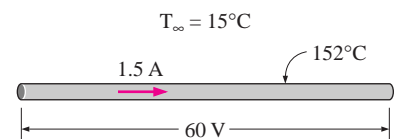

FIGURE 16–13
**Discussion** Note that the thermal conductivity value of a material in English units is about half that in SI units (Fig. 16–10). Also note that we rounded the result to two significant digits (the same number in the original value) since expressing the result in more significant digits (such as 0.4160 instead of 0.42) would falsely imply a more accurate value than the original one.
Consider the cooling of a hot block by blowing cool air over its top surface (Fig. 16–11). Energy is first transferred to the air layer adjacent to the block by conduction. This energy is then carried away from the surface by convection, that is, by the combined effects of conduction within the air that is due to random motion of air molecules and the bulk or macroscopic motion of the air that removes the heated air near the surface and replaces it by the cooler air.
Convection is called **forced convection** if the fluid is forced to flow over the surface by external means such as a fan, pump, or the wind. In contrast, convection is called **natural** (or **free**) **convection** if the fluid motion is caused by buoyancy forces that are induced by density differences due to the variation of temperature in the fluid (Fig. 16–12). For example, in the absence of a fan, heat transfer from the surface of the hot block in Fig. 16–11 will be by natural convection since any motion in the air in this case will be due to the rise of the warmer (and thus lighter) air near the surface and the fall of the cooler (and thus heavier) air to fill its place. Heat transfer between the block and the surrounding air will be by conduction if the temperature difference between the air and the block is not large enough to overcome the resistance of air to movement and thus to initiate natural convection currents.
A 2-m-long, 0.3-cm-diameter electrical wire extends across a room at  $15^\circ\text{C}$ , as shown in Fig. 16–13. Heat is generated in the wire as a result of resistance heating, and the surface temperature of the wire is measured to be  $152^\circ\text{C}$  in steady operation. Also, the voltage drop and electric current through the wire are measured to be 60 V and 1.5 A, respectively. Disregarding any heat transfer by radiation, determine the convection heat transfer coefficient for heat transfer between the outer surface of the wire and the air in the room.